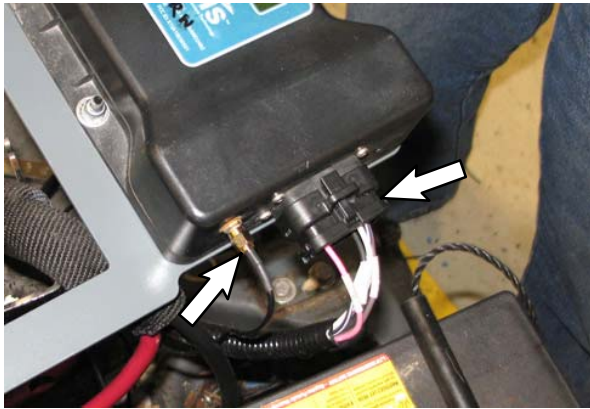

Fig. 17
13. Before mounting the telemetry control box to the machine, connect the telemetry harness (16) and the antenna (5) cable to the telemetry control box (1). (Fig. 17)